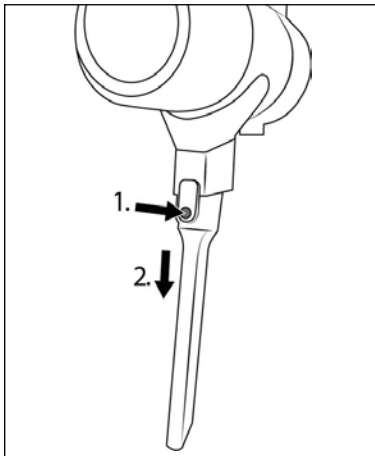

Fig. 14
- ◆ To remove the accessory, press and hold the release button on the accessory, then pull the accessory off the suction pipe 23 or the suction opening of the appliance (see Fig. 14).